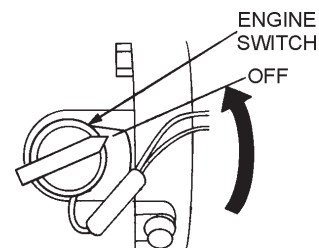

Figure 16. Engine ON/OFF Switch (OFF)
2. After the engine **cools**, turn the engine ON/OFF switch to the **OFF** position (Figure 16).